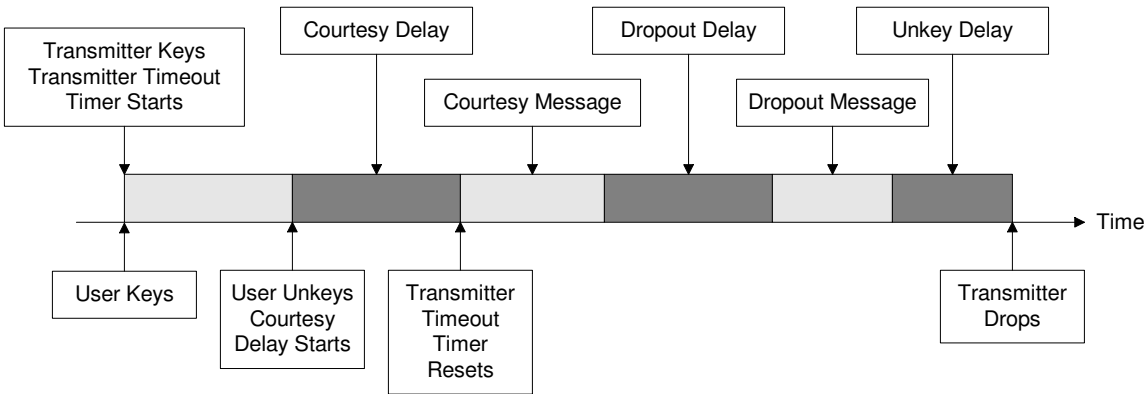

Figure 2
There are a number of commands which control the *Transmitter Tail Sequence*. *Figure 2* will help in the understanding of them. The terms used in these commands are defined below.
Figure 2 represents the *Transmitter Tail sequence*.
- The *Courtesy Delay* time is the delay from path drop (user unkeys) to when the *Path Timeout Timer* resets and the courtesy message begins. See *Figure 2* on page 11-3.
- The *Dropout Delay* time is the interval from the end of the *Courtesy Delay* (and *Reset Path Timeout Timer*) to the moment the transmitter is unkeyed. See *Figure 2* on page 11-3.